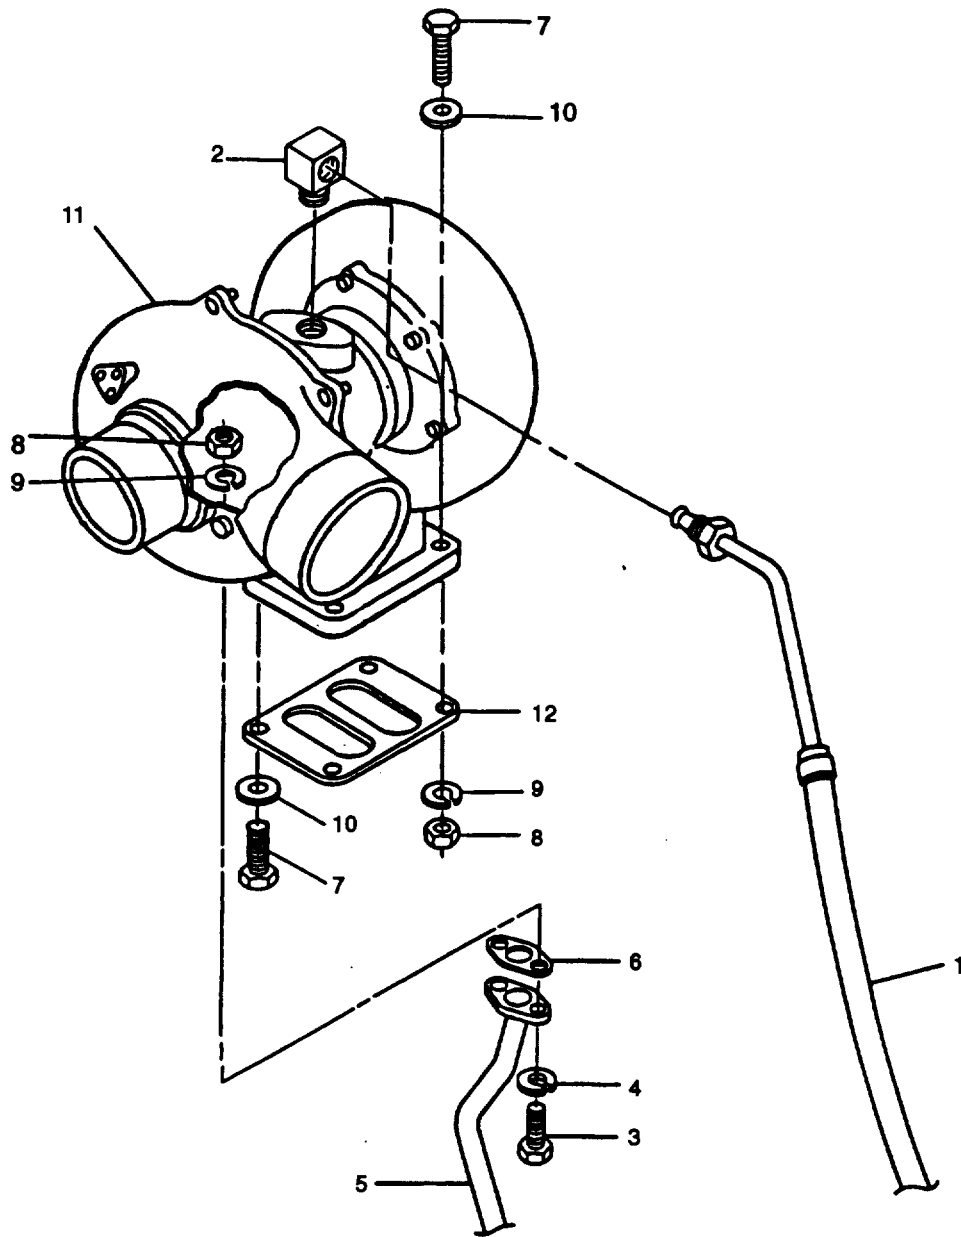

FIGURE 3-24. Turbocharger
- b. Remove air intake line and exhaust line from turbocharger (11, FIGURE 3-24), refer to end item maintenance manual.
- d. Disconnect oil inlet line (1) from fitting (2) on top of turbocharger (11).
- d. Position new stainless steel gasket (12, FIGURE 3-24) and turbocharger (11) on exhaust manifold and secure with four capscrews (7), flatwashers (10), nuts (8) and new lockwashers (9). Tighten capscrews to 35 ft-lbs (47 Nm).
- e. Position new gasket (6) and oil drain line (5) on turbocharger and secure with two capscrews (3) and new lockwashers (4). Tighten screws to 20 ft-lbs (27 Nm).
- f. Connect oil inlet line (1) to fitting (2) on top of turbocharger.